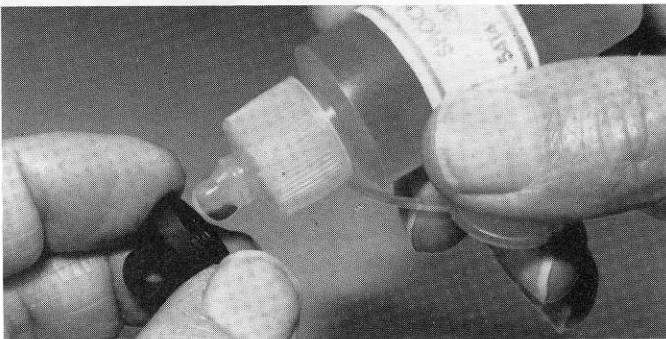

Fig. 118
- **Fig. 118** IMPORTANT: Thoroughly lubricate the threads in the cap BEFORE installing. IT MUST BE LUBRICATED FOR PROPER INSTALLATION. We'll install it in a minute.